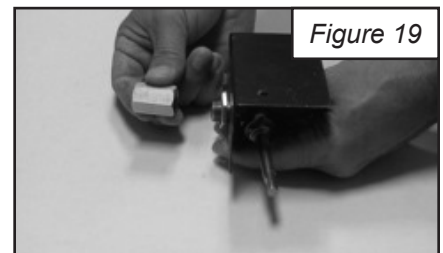

Figure 19
- 3.. Attach the 3/8" Flare to 3/8" NPT Connector (Part # 21) to the Gas Control Valve. (See Figure 19)
To turn off the gas supply to the Main Burner Pan and the Pilot Burner, move the Control Knob clockwise from the Pilot Position to the "OFF" Position (Figure 19).